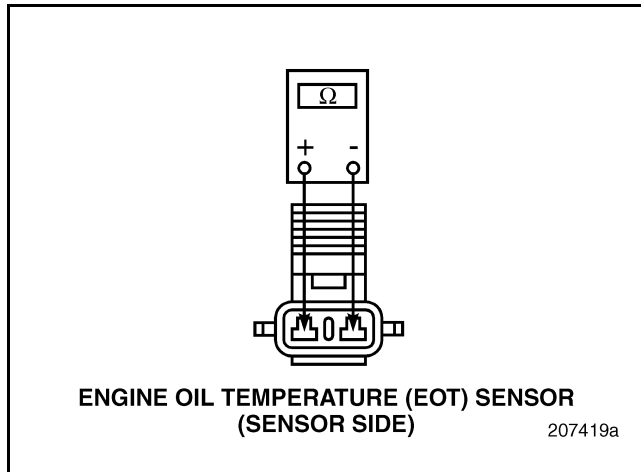

Figure 282
3. Measure the resistance across the pins of the EOT Sensor with the engine oil temperature between 32° and 194°F (0° and 90°C) (see Figure 282).